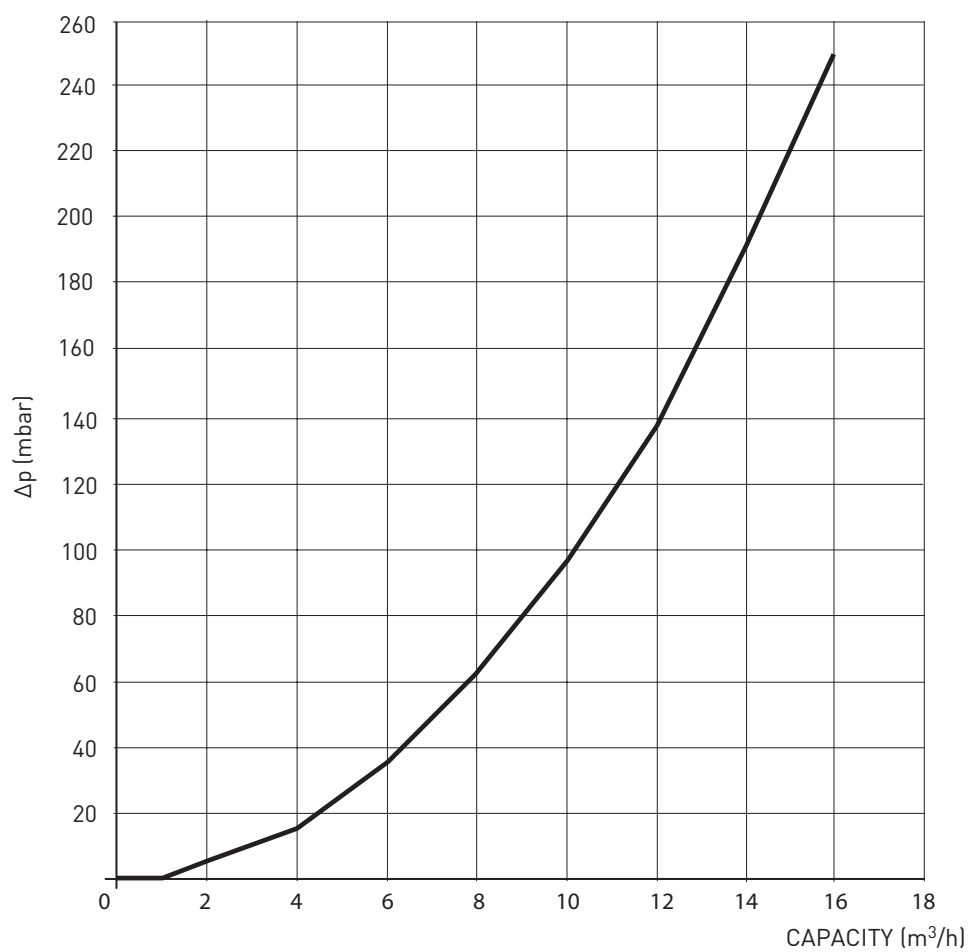

Fig. 10
2.10.1 Load loss hydraulic separator (fig. 10)
Hydraulic separator load losses are indicated in the diagram in figure 10.